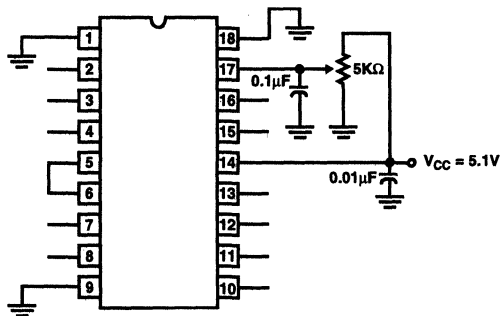

FIGURE 5. TEST CIRCUIT FOR IMPEDANCE MEASUREMENT
2. Measure clock limiter input impedance at pin 15. See Figure 5.
3. Adjust potentiometer for 0V (See Figure 5). Measure ALBO off impedances from pins 2, 3 and 4 to pin 1.
4. Increase potentiometer until voltage at pin 17 = 2V (See Figure 5). Measure ALBO on impedances from pins 2, 3 and 4 to pin 1.